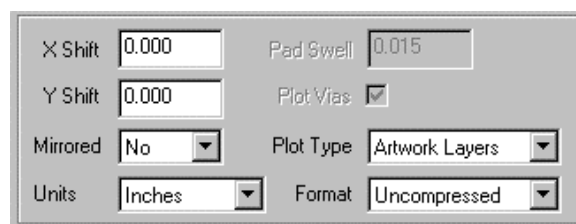

Figure 14. 7
**Other Variables** - the remaining area, shown in Figure 14. 7 is described now.